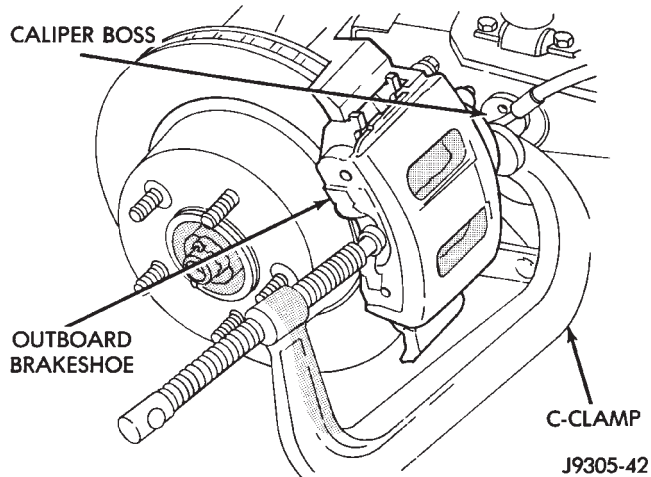

Fig. 26 Bottoming Caliper Piston With C-Clamp
(3) Drain small amount of fluid from master cylinder brake reservoir with suction gun.
(4) Bottom caliper piston in bore with C-clamp. Position clamp screw on outboard brake shoe and clamp frame on rear of caliper (Fig. 26). **Do not allow clamp screw to bear directly on outboard shoe retainer spring. Use wood or metal spacer between shoe and clamp screw.**